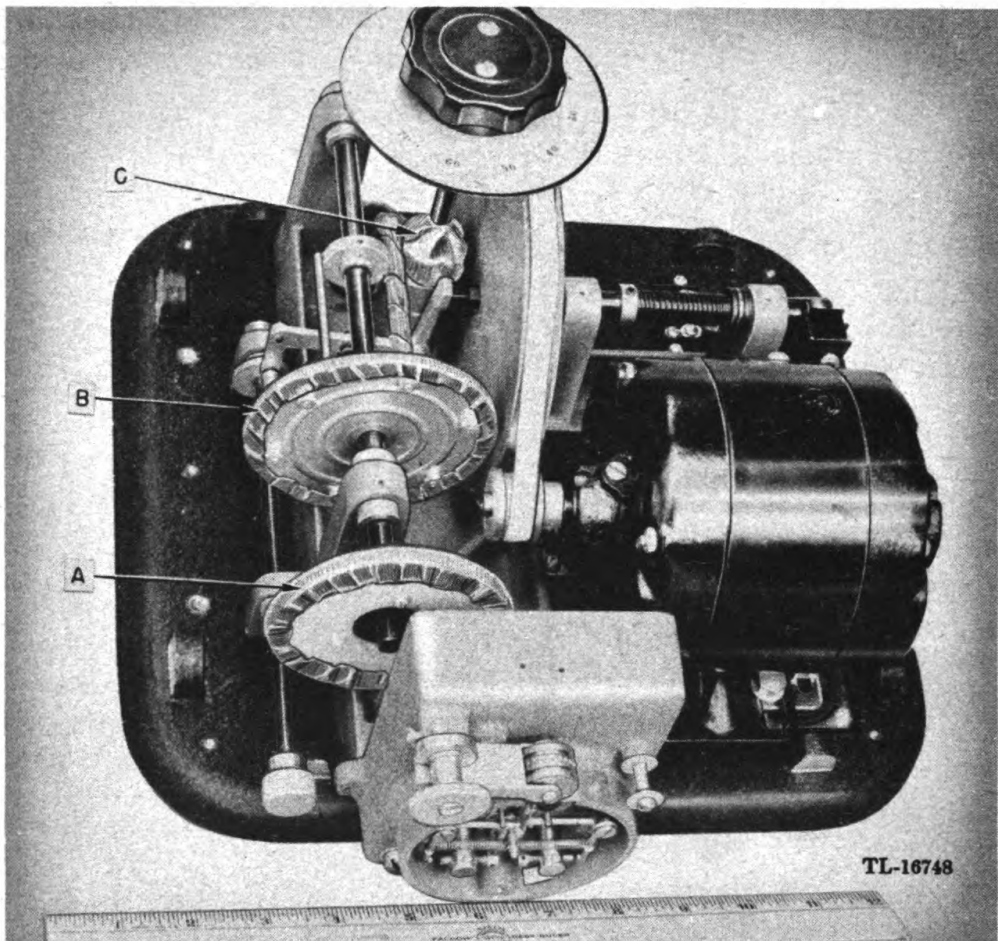

Figure 19. Auto head and drive unit prepared for moistureproofing and fungiproofing, top view.
(3) MASKING.
- (a) Mask the leather friction disk (fig. 19(b)).
- (b) Mask the teeth on the circular gear (fig. 19(a)).
- (c) Mask the teeth of the rack and pinion gear (fig. 19(c)).